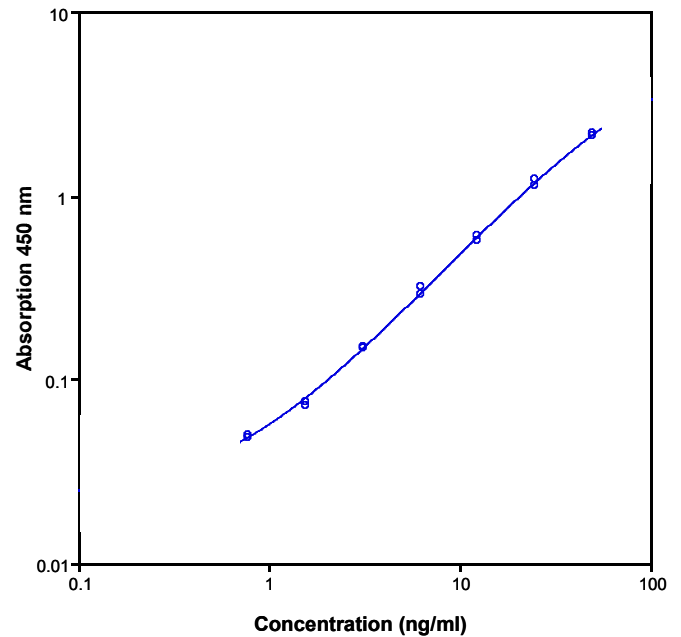

Fig. 7 Representative standard curve for human ICAM-3 ELISA. Human ICAM-3 was diluted in serial 2-fold steps in Sample Diluent.
- A representative standard curve is shown in Figure 7.